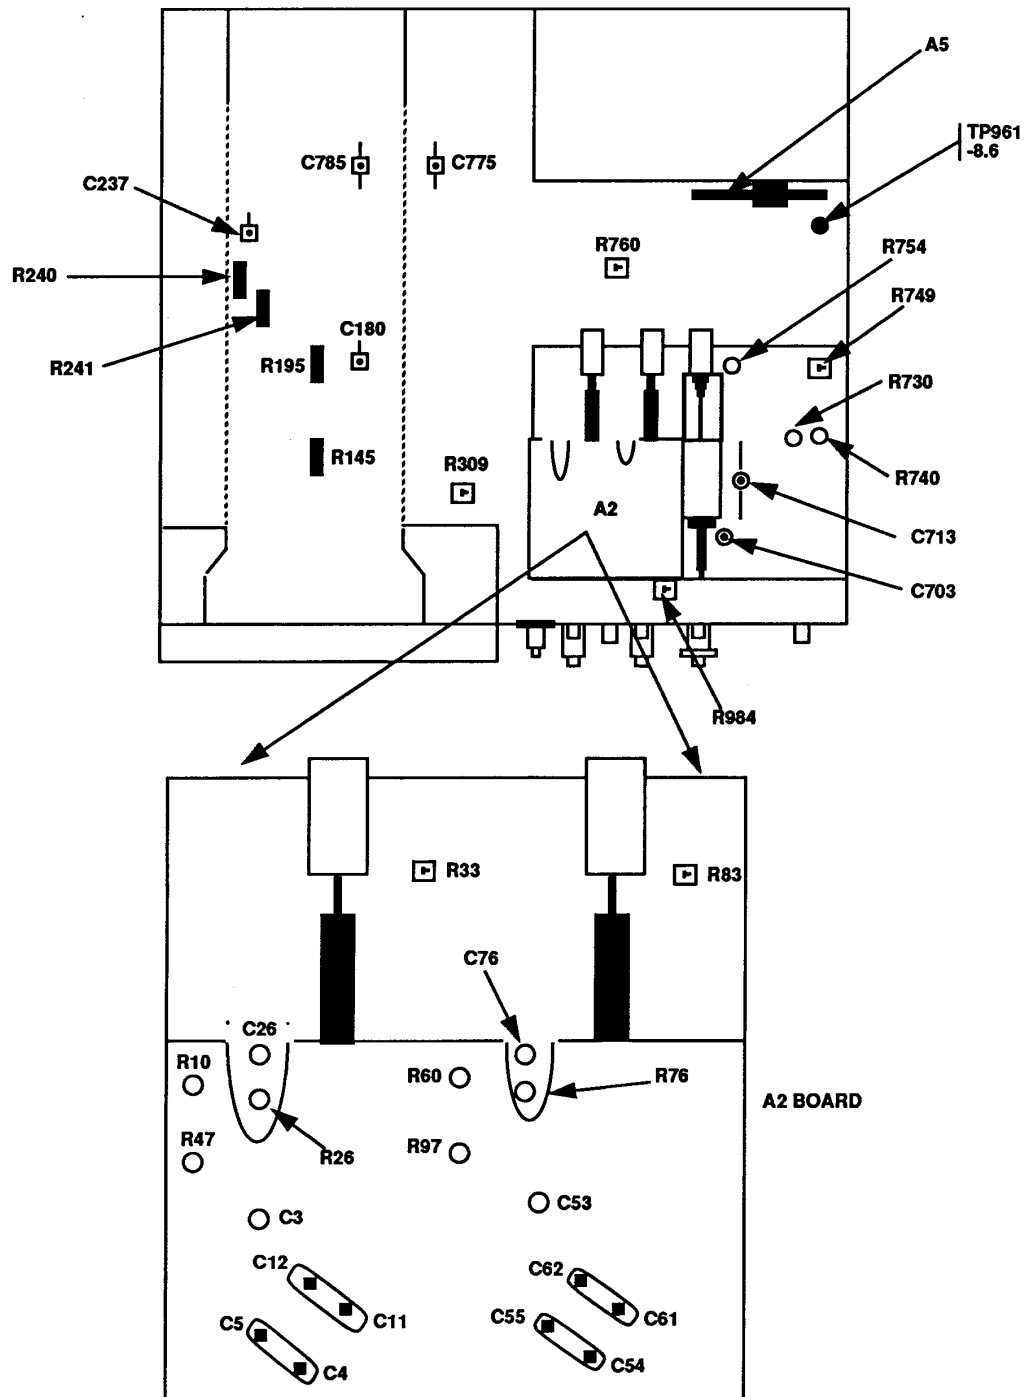

Figure 1. Adjustment locations – top view.
- (1) Disconnect oscilloscope calibrator **CHAN 1** from TI **CH 1**.
- (2) Set **CH 1 AC GND DC** switch to **AC**.
- (3) Set **CH 1 VOLTS/DIV** switch to **50m**.
- (4) Adjust **CH 1 POSITION** control to position trace on center horizontal graticule line.
- (5) Set **CH 1 VOLTS/DIV** switch to **5m**.
- (6) Adjust R10 (fig. 1) to position trace on center horizontal graticule line.
- (7) Repeat (3) through (6) above for minimum trace shift when setting **CH 1 VOLTS/DIV** switch from **50m** to **5m**.
- (8) Adjust **CH 1 POSITION** control to position trace on center horizontal graticule line.
- (9) Set **CH 1 VOLTS/DIV** switch to **2m**.
- (10) Adjust R33 (fig. 1) to position trace on center horizontal graticule line.
- (11) Set **CH 1 VOLTS/DIV** switch to **5m**.
- (12) Repeat (8) through (11) above for minimum trace shift when setting **CH 1 VOLTS/DIV** switch from **5m** to **2m**.
- (13) Connect oscilloscope calibrator **CHAN 1** to TI **CH 1** using a 50 $\Omega$  feedthrough termination.
- (14) Position controls as listed in (a) through (c) below:
- (15) Set oscilloscope calibrator **EDGE** output to **10 kHz** and 5 divisions of vertical deflection on TI.
- (16) Adjust **CH 1 POSITION** control to position top of waveform to the center horizontal graticule line.
- (17) Adjust C3 (fig. 1) and R47 (fig. 1) for the best square corner and flat top.
- (18) Remove 50 $\Omega$  feedthrough termination and connect calibration generator **OUTPUT** to TI **CH 1**.
- (19) Set oscilloscope calibrator voltage output to 10 mV at 1 kHz .
- (20) Position controls as listed in (a) through (c) below:
- (21) Adjust R26 (fig. 1) for 5 divisions of vertical deflection on TI (R).
- (22) Set **CH 1 VOLTS/DIV** switch to **10m**.
- (23) Set oscilloscope calibrator output to 50 mV.
- (24) Adjust R145 (fig. 1) for 5 divisions of vertical deflection on TI (R).
- (25) Connect oscilloscope calibrator **CHAN 1** to TI **CH 1** using a 5-80 pF standardizer.
- (26) Set oscilloscope calibrator **EDGE** output to **1 kHz** and amplitude for 5 divisions of vertical deflection on TI.
- (27) Adjust 5-80 pF standardizer for optimum square wave.
- (28) Set **CH 1 VOLTS/DIV** switch to **.1**.
- (29) Replace 5-80 pF standardizer with 50 $\Omega$  feedthrough termination.
- (30) Set oscilloscope calibrator output amplitude for 5 divisions of vertical deflection on TI.